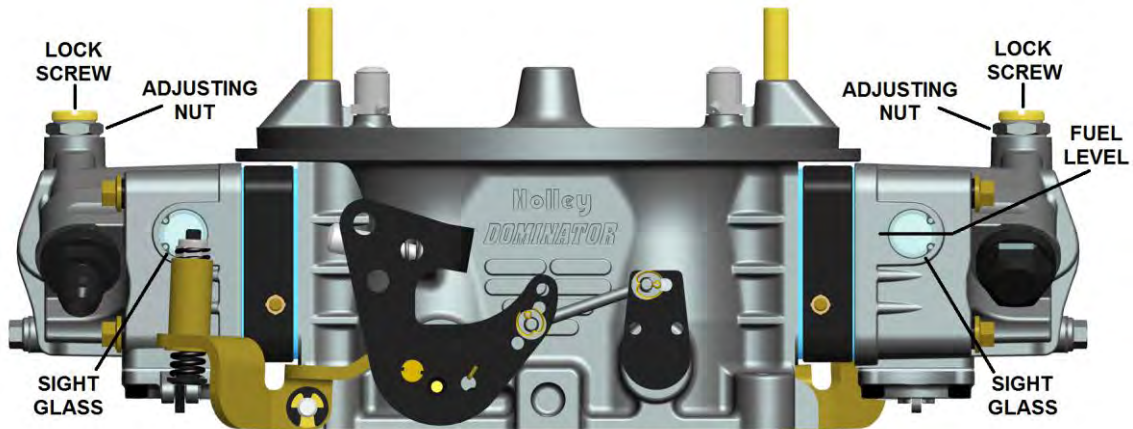

Figure 1
3. The fuel level in the clear sight glass should be mid-level to slightly below center for correct float adjustment. Most likely, this will not need to be adjusted. See Figure 1 and 1a.